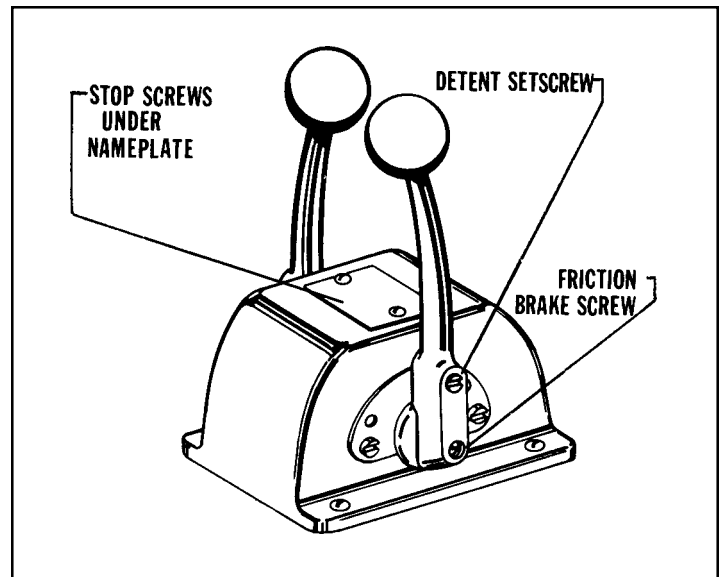

FIGURE 4
4. A friction brake setscrew is located at the hub center of the hand lever. (See Figure 4). Turn the setscrew clockwise to increase drag on the hand lever, or counter-clockwise to decrease drag, as required.